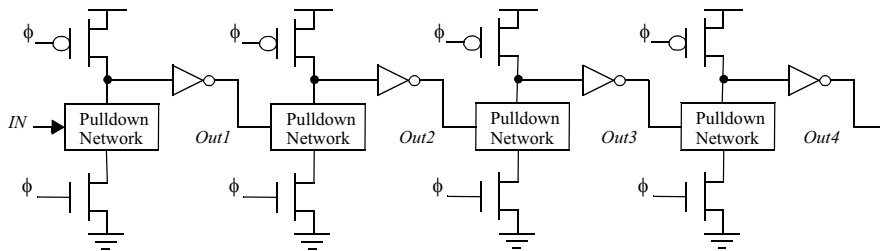

Figure 6.15 Conventional DOMINO Dynamic Logic.
22. Consider a conventional 4-stage Domino logic circuit as shown in Figure 6.15 in which all precharge and evaluate devices are clocked using a common clock ϕ . For this entire problem, assume that the pulldown network is simply a single NMOS device, so that each Domino stage consists of a dynamic inverter followed by a static inverter. Assume that the precharge time, evaluate time, and propagation delay of the static inverter are all $T/2$. Assume that the transitions are ideal (zero rise/fall times).